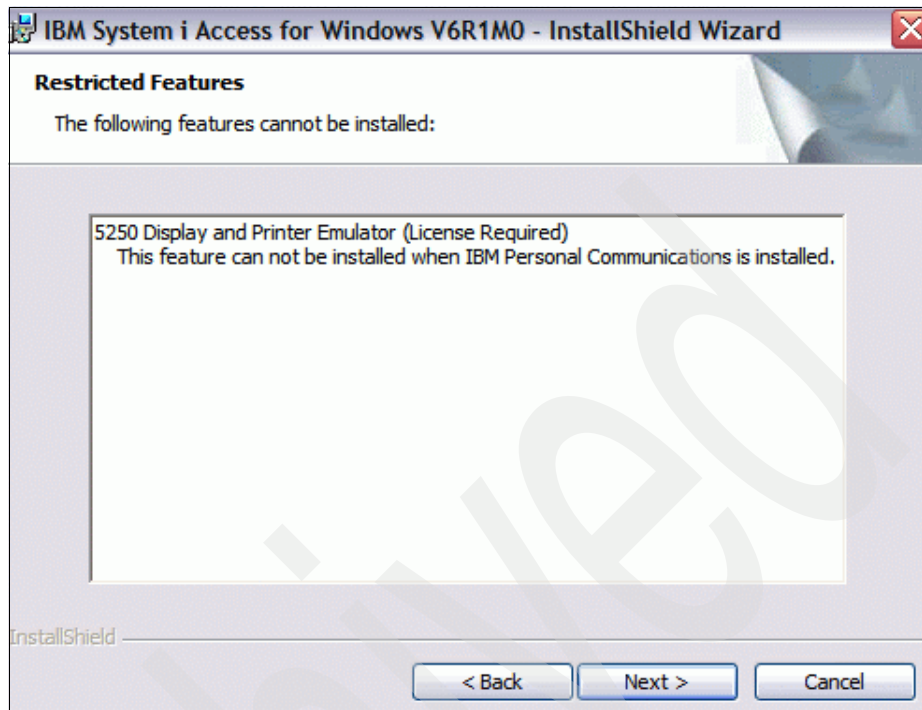

Figure 5-15 IBM System i Access for Windows Restricted Features
8. Some features require a license agreement to use their functionality, as shown in Figure 5-15 on page 232. Ask your service representative to receive a valid license key.